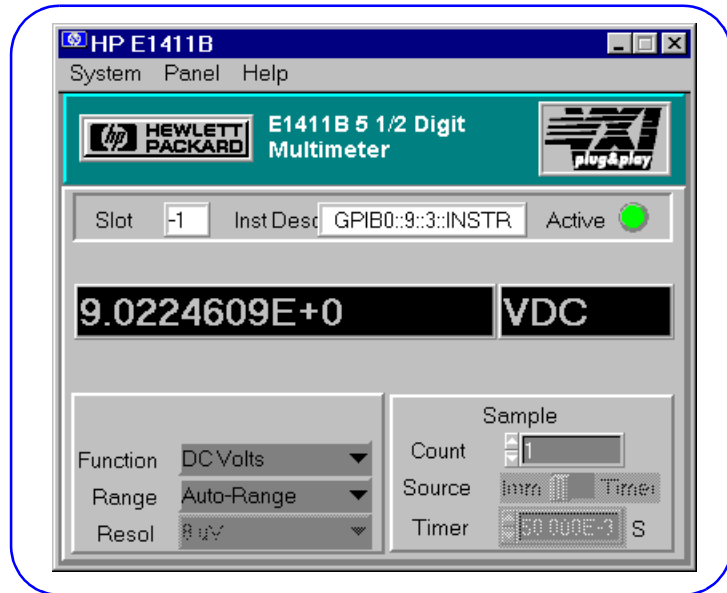

Figure 30. Example: HP E1411B Soft Front Panel Display
- 2 To display the HP E1411B Soft Front Panel, turn the PC ON and click *Start/Programs/Vxipnp/HP E1411 DVM (32-bit SFP)*. Then, to measure the 9V battery value, click the *System/Auto Update* menu item. See Figure 30 for a typical display.
- 3 Some features of the Soft Front Panel display in Figure 30 are: